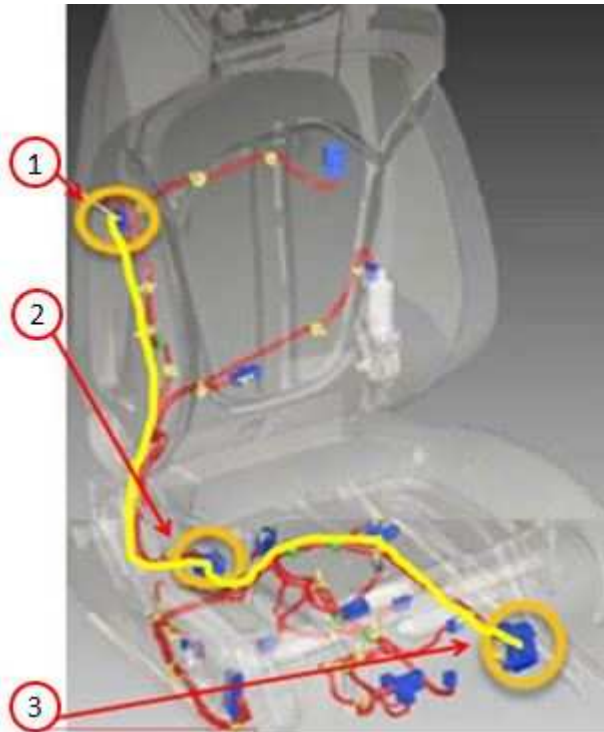

Fig. 3
- The jumper harness will be routed between the SAB and the Seat to Body in-line connector. The jumper harness will by-pass the seat cushion in-line connector. See (Fig. 3) for jumper harness routing.